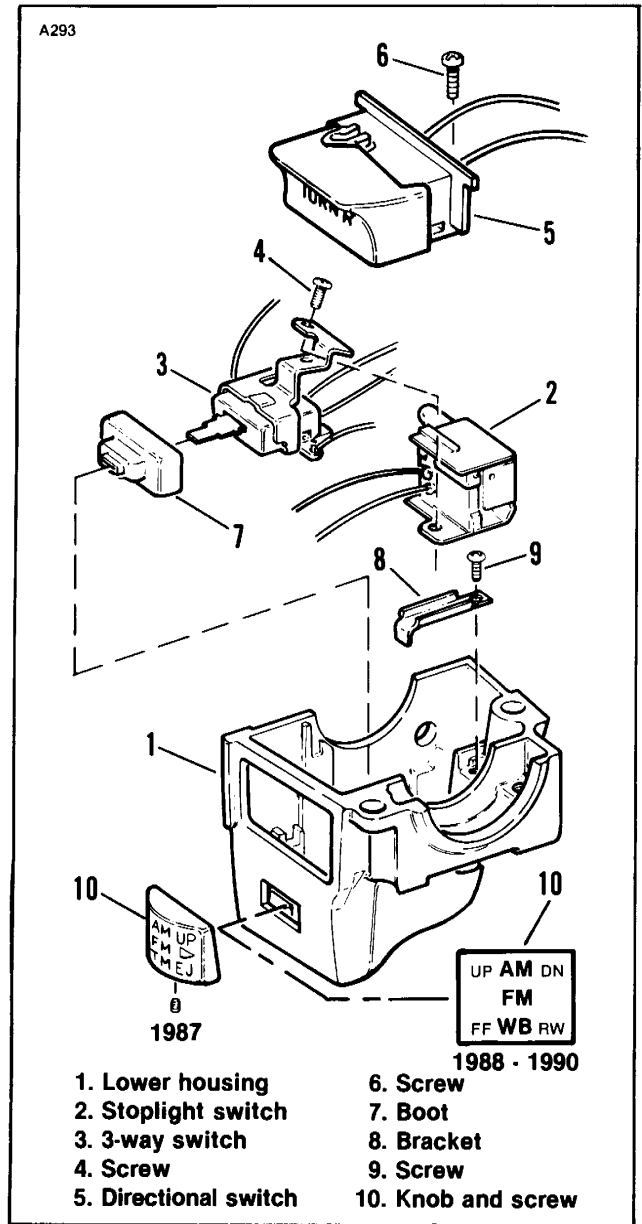

Figure 2-114. Right Lower Housing Assembly
1. See Figure 2-114. Remove the two clamping screws and separate switch halves. Loosen setscrew in bottom of knob (10) (if equipped) and remove knob. Remove right directional switch (5), functional switch (3) and stoplight switch (2) by removing screws (6, 4 and 9).
1. See Figure 2-114. Insert 3-way functional switch (3) into new lower housing (1). Mounting tab on 3-way switch MUST be placed on top of brake light switch mounting tab (2) to prevent brake light switch from binding. Attach both units to housing with No. 4 x 1/4 in. self tapping screw (4).
2. Place directional switch (5) into opening in housing. Hole in mounting tab will line up with threaded hole in 3-way switch mounting tab. Attach unit with No. 4 x 1/4 in. screw (6).
3. Route wires to exit left side of lower housing. Secure with bracket (8) the same as in old housing.
4. Press knob (10) on function switch lever and tighten setscrew (if equipped).